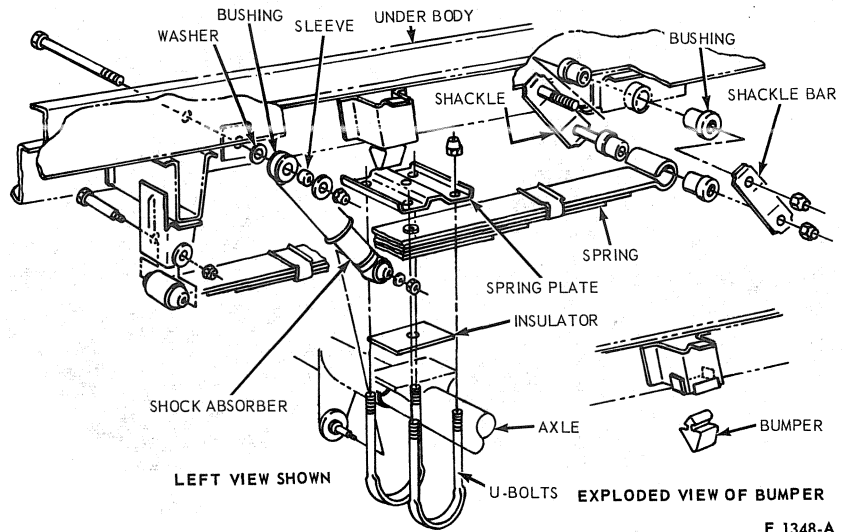

FIG 7—Rear Spring Installation
3. Remove the two spring clips (U-bolts) and the spring clip plate (Fig. 7).
3. Mount the rear end of the spring by inserting the upper stud of the rear shackle assembly through the rear shackle bracket, and the lower stud through the rear eye of the spring (Fig. 7).